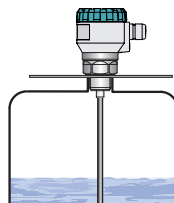

Fig. 8: Level meter installation in the non-metal tank
- To install the level meter in a non-metallic water tank, it is necessary to insert a metal plate with a diameter greater than 200 mm in the area of the process connection, see fig. 8. The metal plate must be in contact with the thread stop of the level meter.